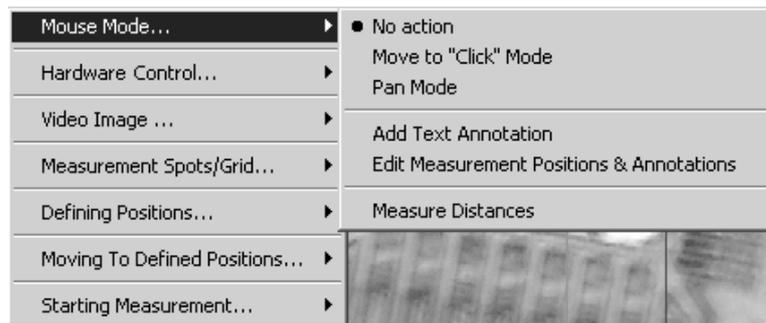
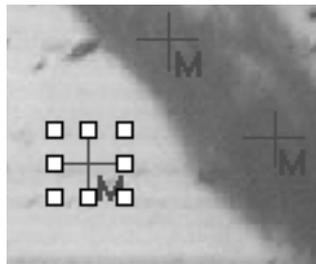

Figure 42: Mouse Mode Control
Figure 43: Editing a Measurement Position
If the *Edit Measurement Positions & Annotations* function in the mouse mode menu (figure 42) is activated left-clicking on a measurement point invokes a rectangle (figure 43) which can be moved by dragging and dropping, deleted using the *Del*-key on the keyboard or resized. (Resizing only enlarges the marker for a better visualization but does not change the measurement position.) Note that a defined measurement position can only be edited (i.e. deleted or moved to another position) in the run-up to a measurement. After the measurement, editing a measurement position is no longer possible.
Text annotations can be added to the overview image by selecting the *Add Text Annotation* function from the *Mouse Mode* menu (figure 42). Left-click on the image position where the text should appear. A dialog opens in which you can enter the annotation text. Note that the space bar will act as return (or enter) key and generate a new text line. The color of the annotations can be changed by right-clicking on the annotation. This will bring up the pop-up menu. Select the *Annotation* function and click on *Change Color*. Assign another color to the text by clicking on the desired color. To delete annotations click on the *Remove* function.
- Move the stage to the desired sample measurement position by clicking on the respective spot in the overview image. Ensure that the function *Move to „Click“ Mode* in the *Mouse Mode* menu (figure 42) is activated. Position the stage in such a way that the sample area of interest is in the center of the overview image.